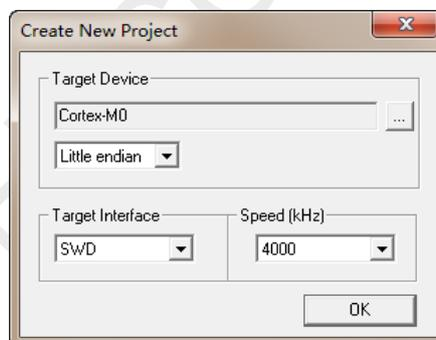
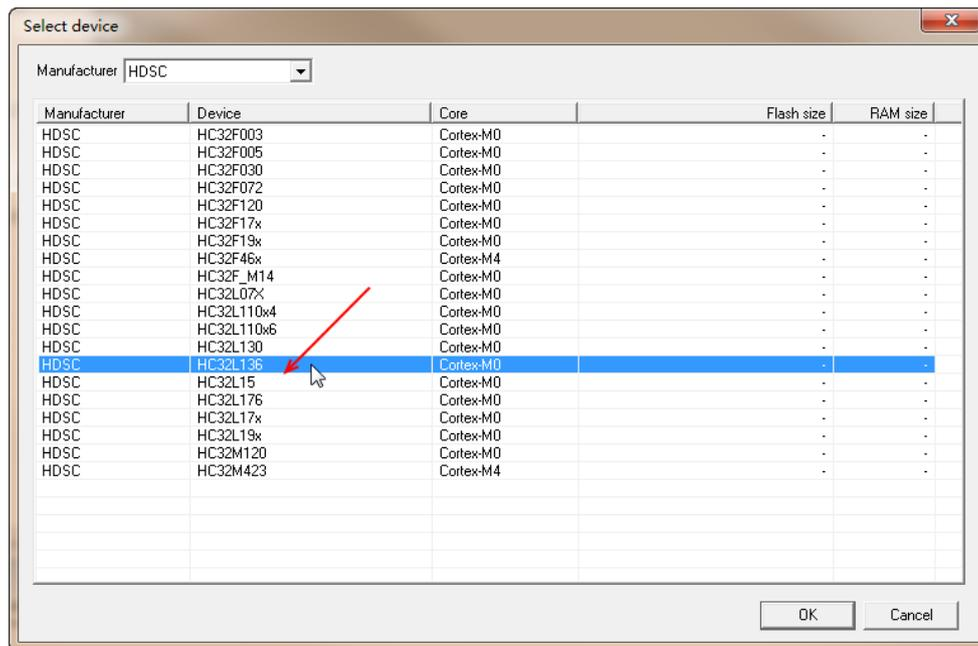

Figure 4-2. Create New Project Window
Figure 4-3. Select Device Window
2. The new project window popped up, as shown in Figure 4-2. Click "... "in this window, the Target Device selection list window is displayed as shown in Figure 4-3. Select HC32L136 in the Select Device list window and then click the "OK" button.